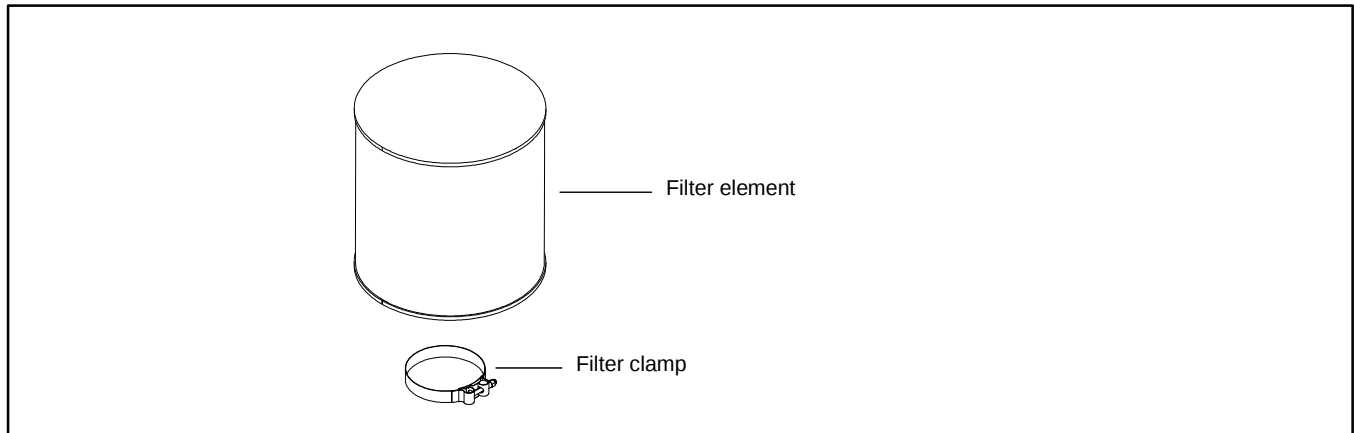

Figure 12 Air Filter
Some models use an optional gas filter with a reusable filter element that requires periodic cleaning. See Figure 12 and use the following procedure to clean the gas strainer.
3. Loosen the filter clamp and remove the filter element from the air intake elbow. See Figure 12.